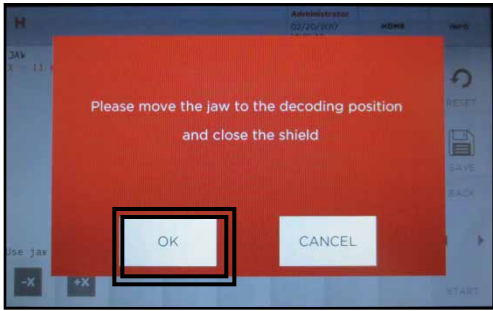

**Fig. 2** Template turned to 0 position. Tighten with left thumb wheel
**Turn template to position 0** (Fig. 2). Close shield and select **OK**